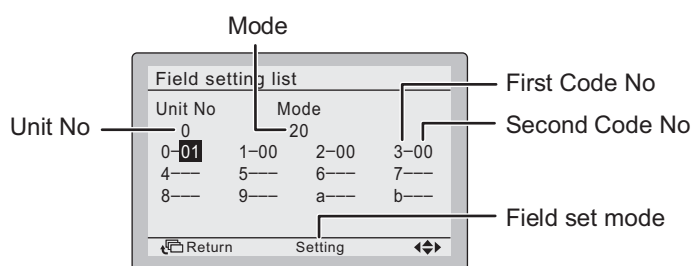

Fig. 30
- When in the field set mode, select mode No. 12, then set the first code (switch) No. to “1”. Then set second code (position) No. to “01” for FORCED OFF and “02” for ON/OFF OPERATION. (FORCED OFF at factory set) (Refer to Fig. 30)